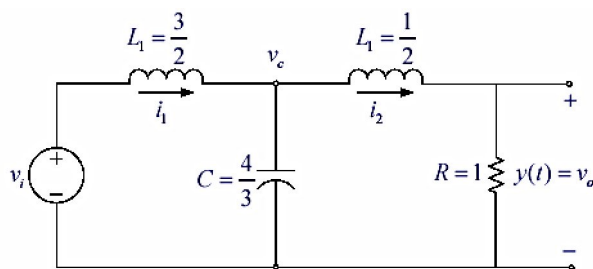

Figure 2.1: Third-order low-pass filter
1. The circuit shown in Figure 2.1 is a third-order Butterworth filter. Select appropriate state variables and obtain the state and output equations. Treat the output, $y(t)$, as the voltage across the resistor.